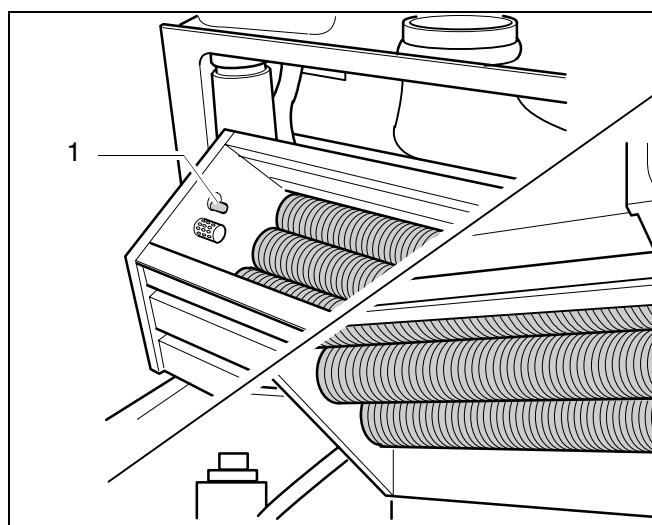

fig. 48 Cleaning the heat exchanger
The hot surface ignitor (fig. 48, item 1) is made of **fragile material**.